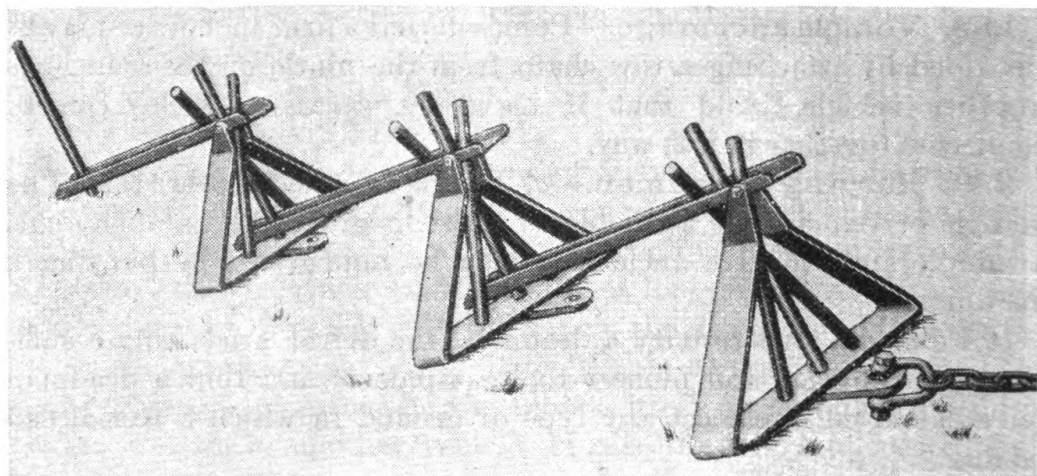

FIGURE 38.—Anchor stakes.
**300. Multiple anchor stakes.**—Lay out at least one set of multiple anchor stakes and explain that these may be used as an artificial anchorage in places where no natural anchorage is available, and where the ground is reasonably firm. Have student drivers practice method of installing those stakes, while you explain as follows (see fig. 38) :